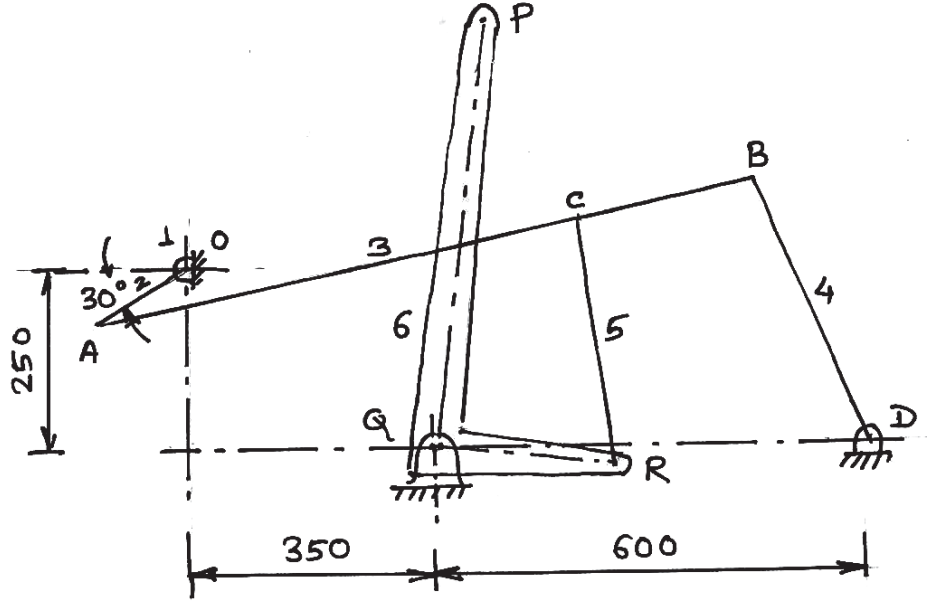

Fig. 1
- (b) The configuration of wrapping machine is shown in Fig. 1. Determine by using ICR method, the velocity of point P on bell crank lever PQR, if the crank rotates at 80 rad/s . The dimensions of various links are $OA = 150 \text{ mm}$, $AB = 950 \text{ mm}$,